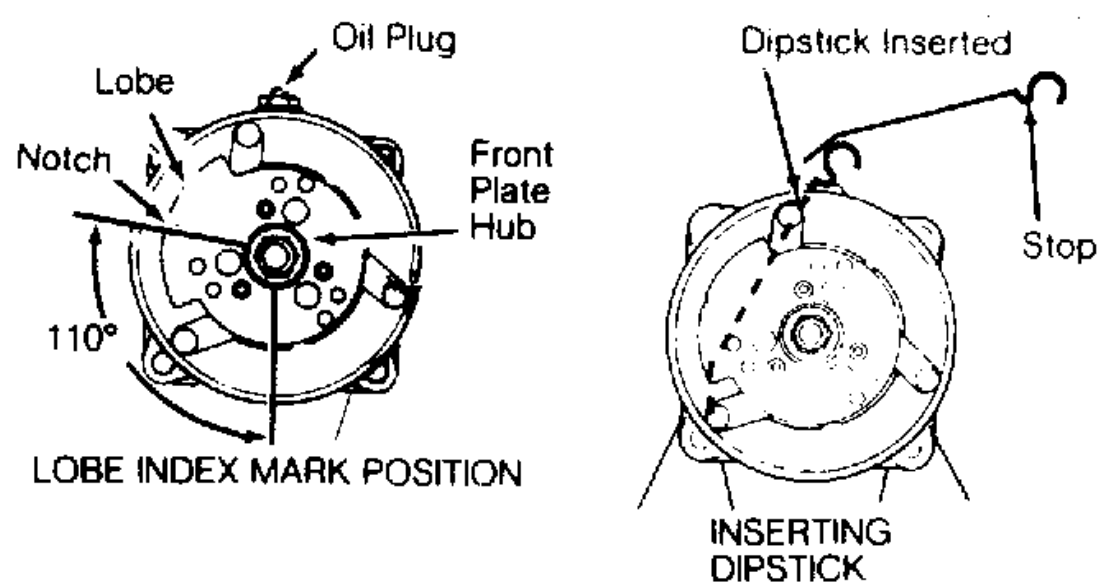

Fig. 1: Sanden 5-Cylinder Oil Level Checking
1. Discharge system. Remove compressor belt and loosen mounting bolts. Rotate compressor in brackets until filler plug is at top. Clean area around filler plug and remove plug slowly. Rotate front hub plate so notch in lobe is 110 degrees from the bottom. This rotates ball end of top piston to align with oil fill port and allows clearance for dipstick. See Fig. 1.